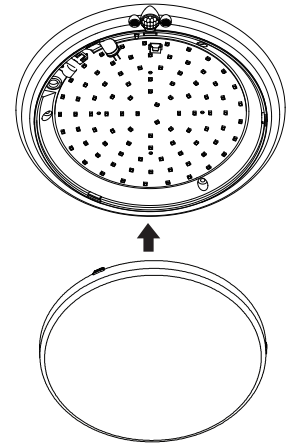

Fig.5
- Step7 Fasten the cover to the lamp base which has been installed on the wall and adjust the knob.(as Fig.5)